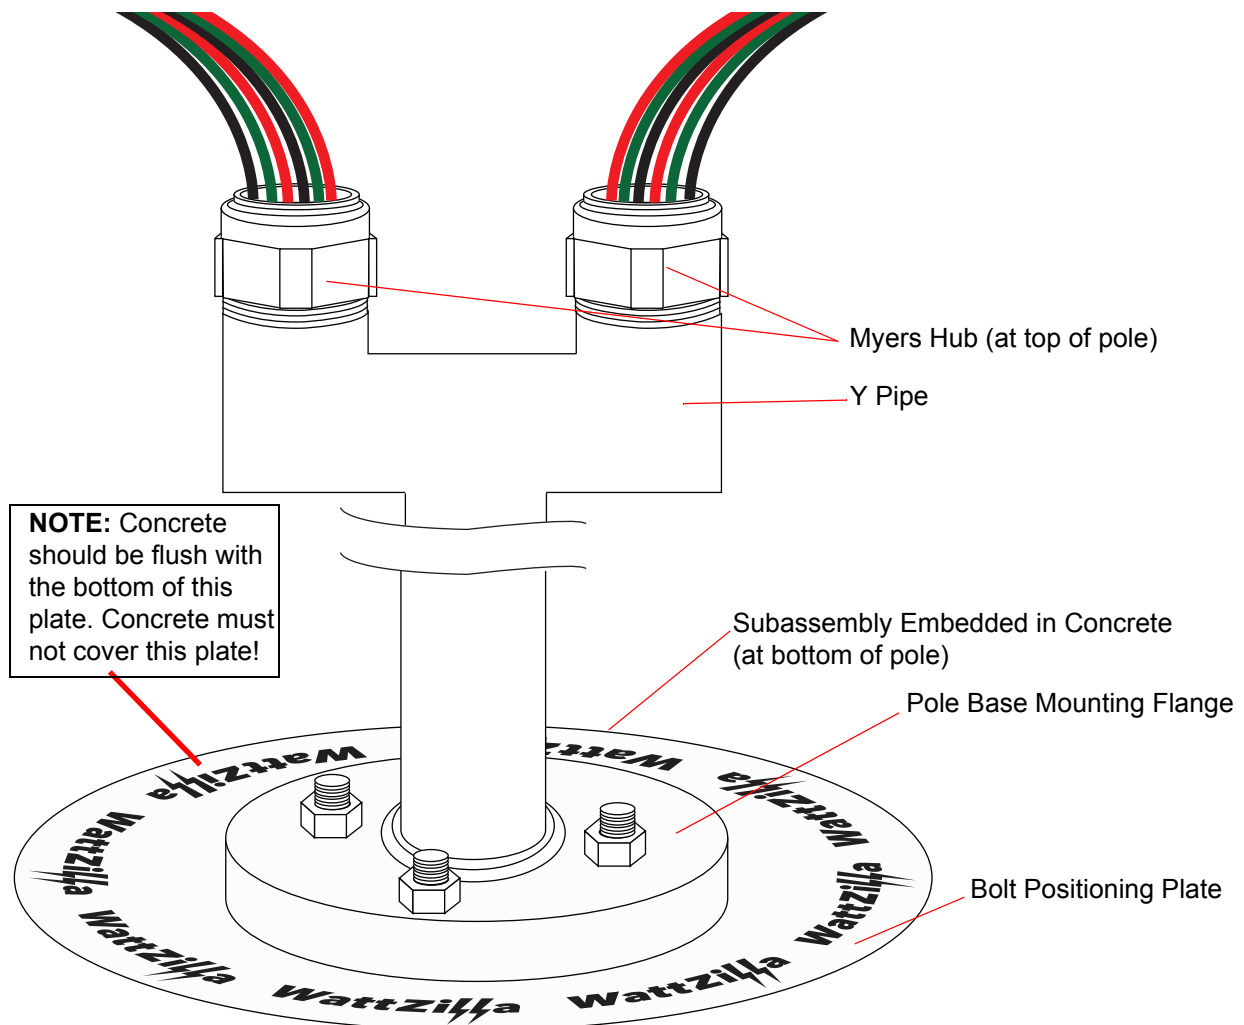

Figure 6. Attaching the Pole to the Base Subassembly
10. Snake a minimum of five feet of wiring through the bottom end of the pole, exposing about 1 foot or more of wiring through the top of the pole. Since the wires will power both sides of QuadZilla, ensure that two red wires, two green wires, and two black wires are threaded through each side of the Y pipe as indicated in Figure 6.
11. Place the threaded end of the pole (bottom of the pole) into the flange that is located at the top of the pole base subassembly that is embedded in the hardened concrete (Figure 6). Then wrap a piece of protective cloth or tape around the nut on the Myers hub (located at the top of the pole), and place the open end of a wrench over the covered nut. Carefully turn the nut clockwise to securely attach the pole to the flange. Be careful not to strip the threads when attaching the pole to the flange.